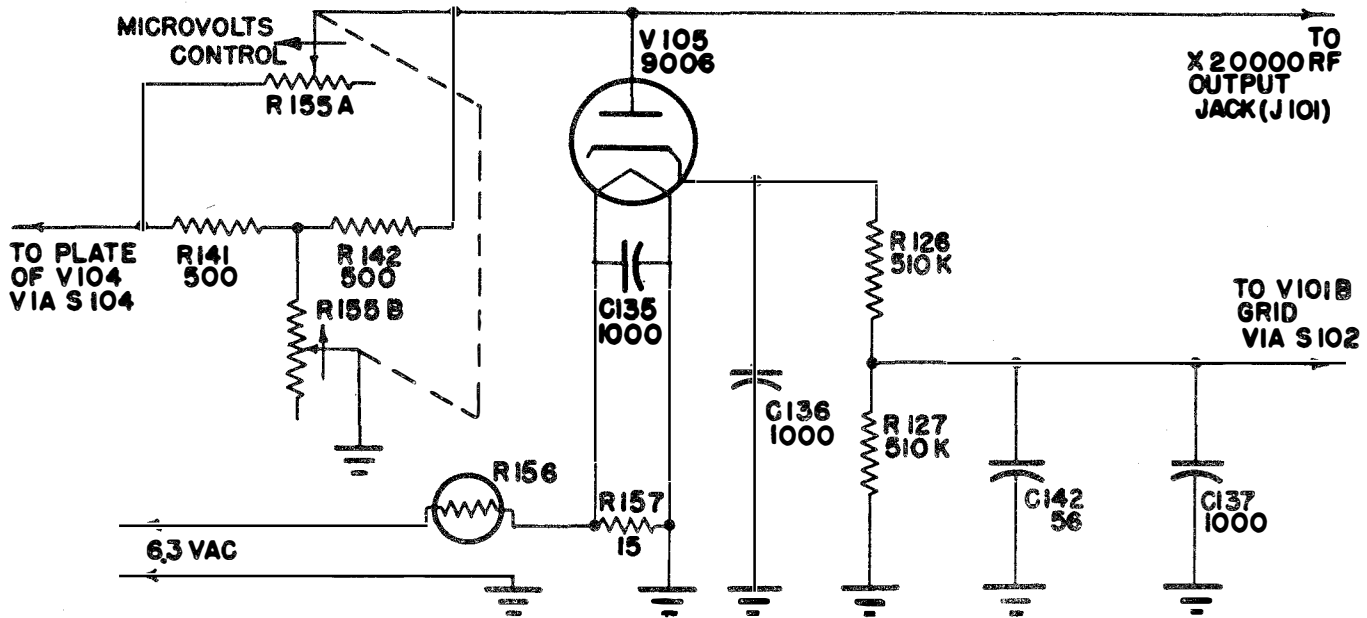

Figure 2-5. Simplified Schematic Diagram of the RF Diode
a. RF DIODE. (See figure 2-5).
(1) The RF diode (V-104) rectifies the carrier